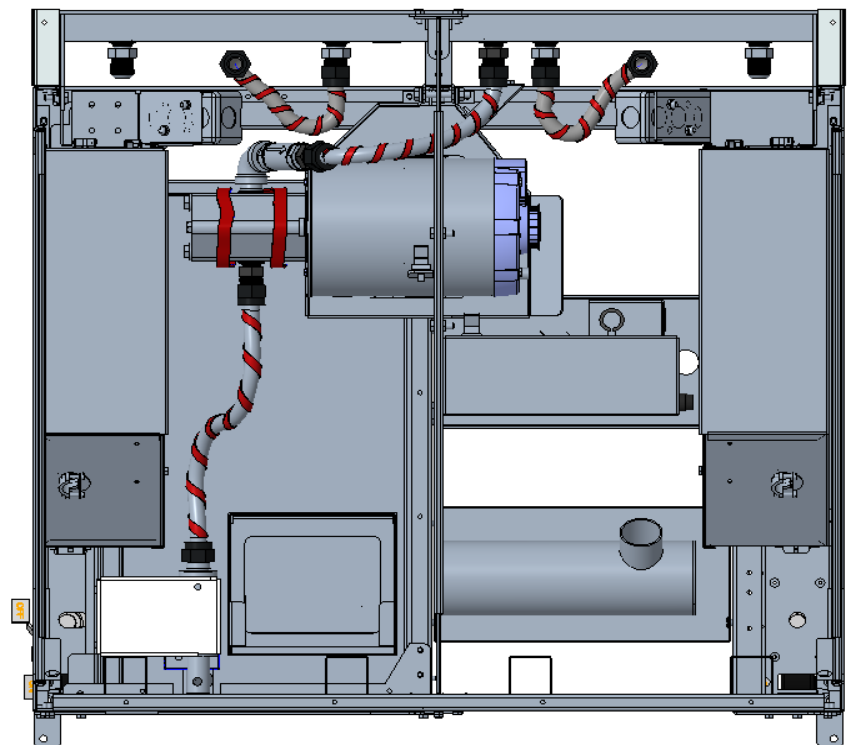

Fig 8
12. Wrap all flex lines and filter pump using foil tape to retain tightly around oil line. While it may not be shown well in illustration, ALL check valves and return valve bodies must also be covered in heater strips (Figures 8 & 9).